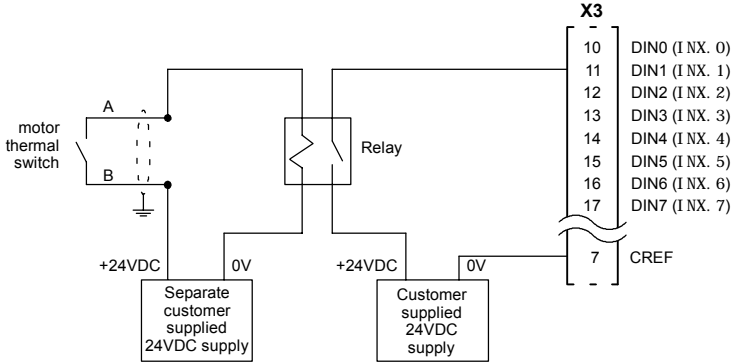

Figure 9 - Motor thermal switch circuit
You might wish to wire the motor's thermal switch contacts (normally open), using a relay, to a digital input on connector X3 (see section 4.3.1). Using the WorkBench v5 Digital I/O tool, the input can be configured to be the motor trip input. This allows the FlexDriveII to respond to motor over-temperature conditions. The Mint keyword `MOTORTEMPERATUREINPUT` can also be used to configure a digital input for this purpose. A typical circuit, using DIN1 as the input, is shown in Figure 9.
**CAUTION:** The 24VDC power supply connected to the thermal switch must be a separate supply as shown in Figure 9. Do not use the 24V supply used for the drive enable signal, or the internally generated supply (if present). The thermal switch wires often carry noise that could cause erratic drive operation or damage. The thermal switch contacts must never be wired directly to a digital input.